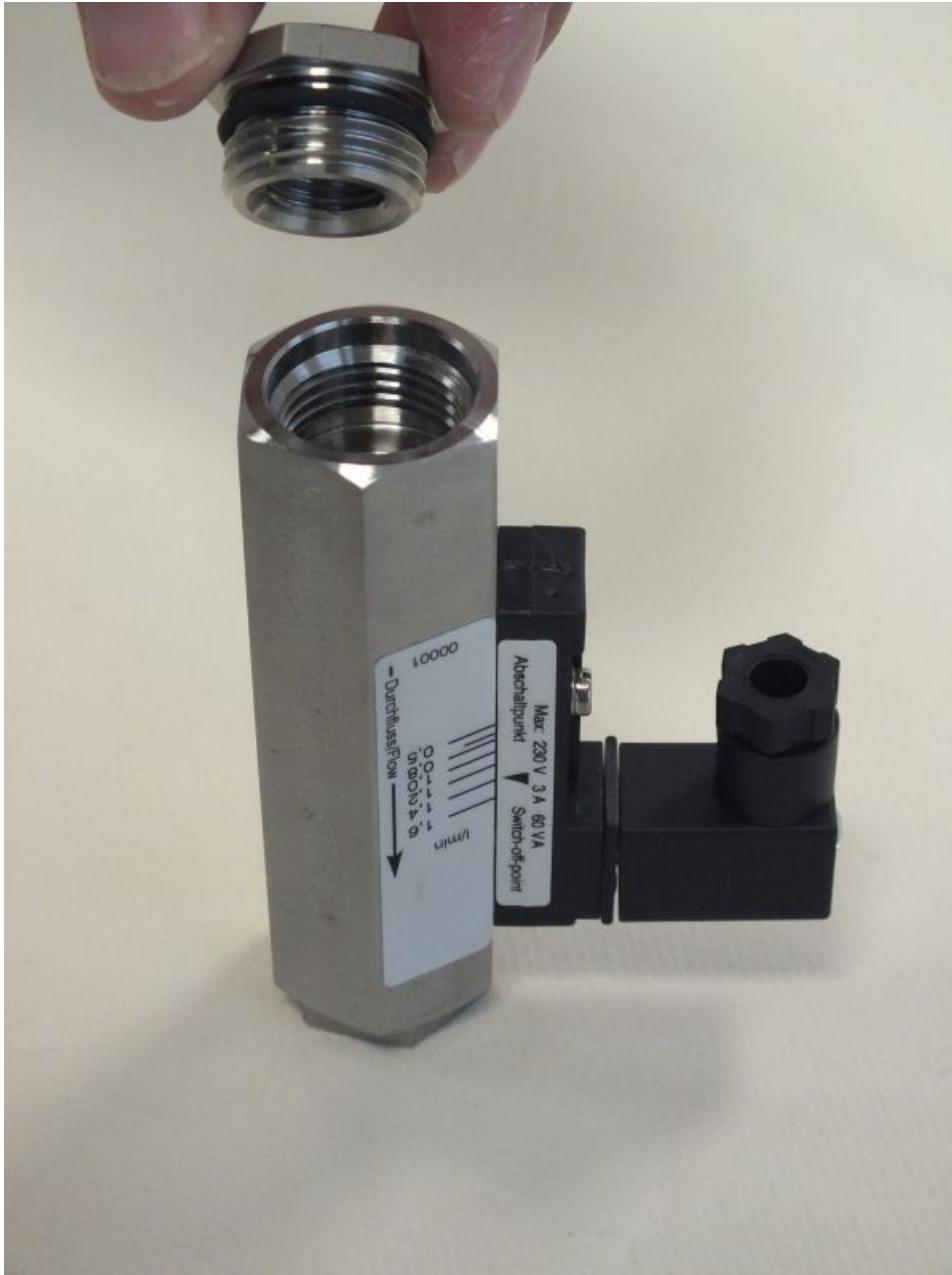

Fig. 46: Insert process connection (inlet
- 4.** Insert the process connection (inlet) into the device body (inlet) (*Fig. 46*).